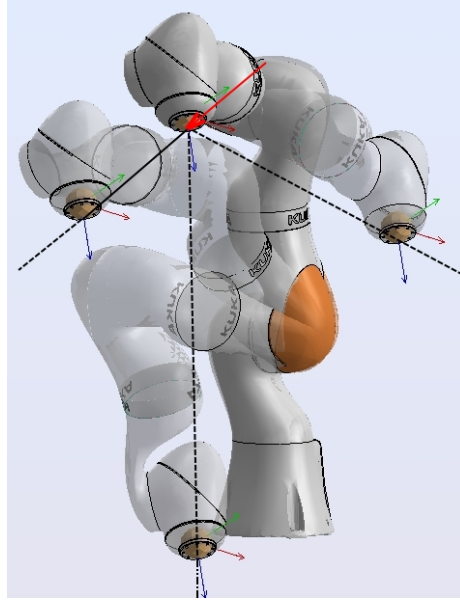

Fig. 11.1: Precise hand-guiding first motion group
1. First motion group, Fig. 11.1: in this case the operator can move the EEF on a line along the axes of the robot base frame, once at a time. In such a case, the orientation of the EEF is kept unchanged while performing the motion.
The first motion group is demonstrated in Fig. 11.1. To explain this motion group, consider the case where the operator is applying a force on the EEF of the robot, the force applied is approximately aligned with the positive X-axis of